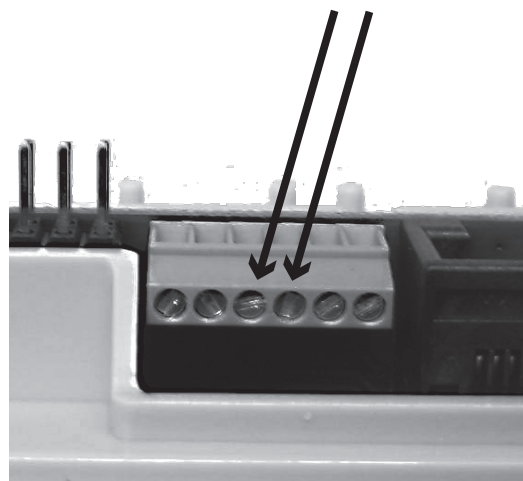

Figure 3-22
2. Run the wire to the Receiving Device. insert both wires into the 3rd and 4th terminals on the sensor connection block and tighten the 3rd and 4th terminal block screws shown in Figure 3-22.